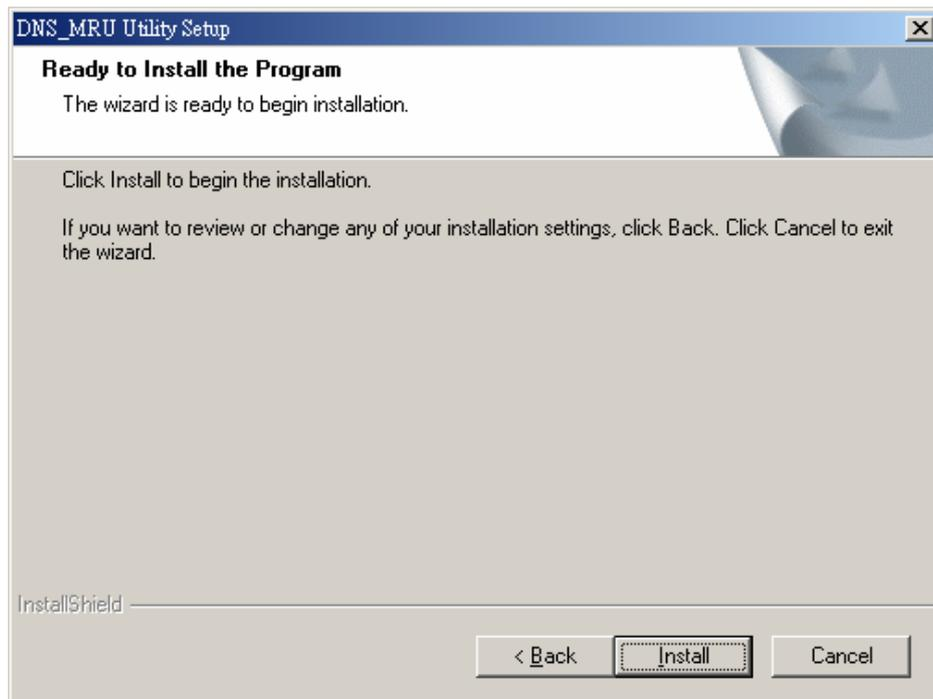

Figure 6-4. “Ready to Install the Program” dialog
Step 5: Click “Next” button and a “Ready to Install the Program” window will pop up to prompt user that the wizard is ready to begin the installation See figure 6-4.